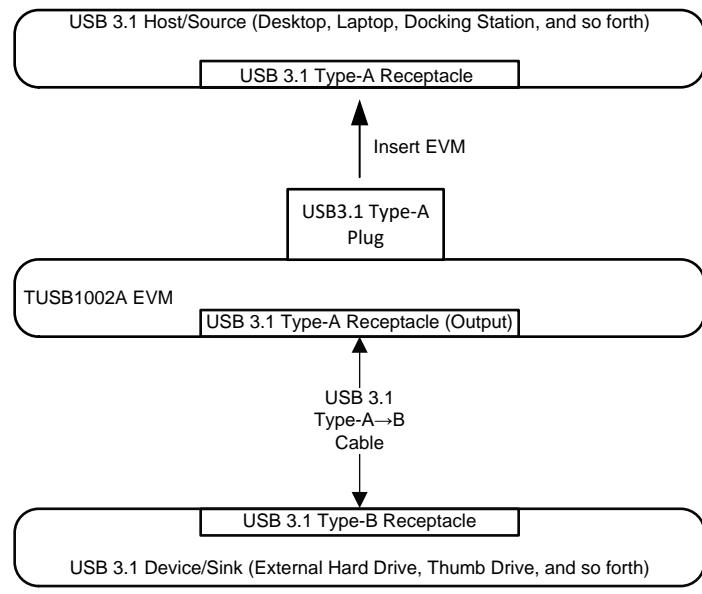

Figure 1. TUSB1002A Functional System Level Block Diagram
This EVM was designed to be used as a medium connection between a USB host and a USB device. The interface to the EVM consists of a USB 3.1 Type-A Plug and a USB 3.1 Type-A Receptacle. Because a USB3.1 Type-A plug is used, the TUSB1002A EVM board can be inserted directly into the system (desktop, laptop, docking station, hub, and so forth). The test setup should look similar to Figure 1.
- Changed Figure 1 2